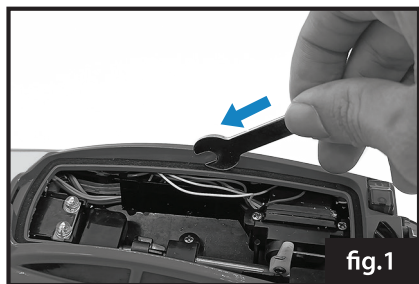
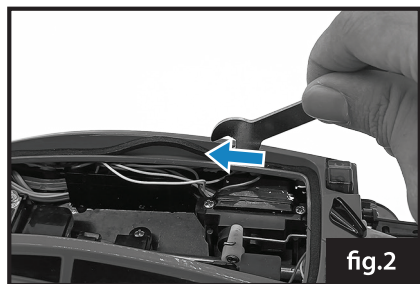

fig.1
fig.2
fig.1 fig.2
1. Pull the throttle backwards and the boat moves forward (fig.1)
2. Push the throttle all the way forward then press the dive button. The boat diving lasts approximately 3-5 seconds then rises to the surface (fig.2)
1. Put the tool on the waterproof ring.(fig.1)
2. Push the tool downward to push out the waterproof ring on the boat (fig.2)